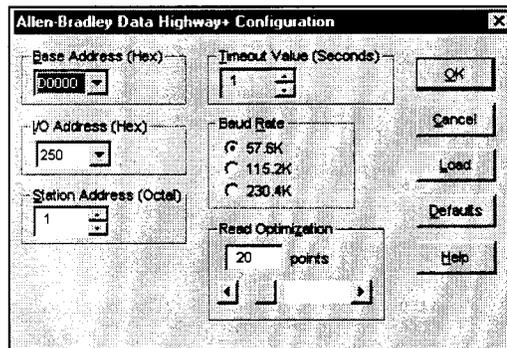

Figure 4. Allen-Bradley Data Highway+ Configuration dialog box
8. The Allen-Bradley Data Highway+ Configuration dialog box opens, as shown in Figure 4.